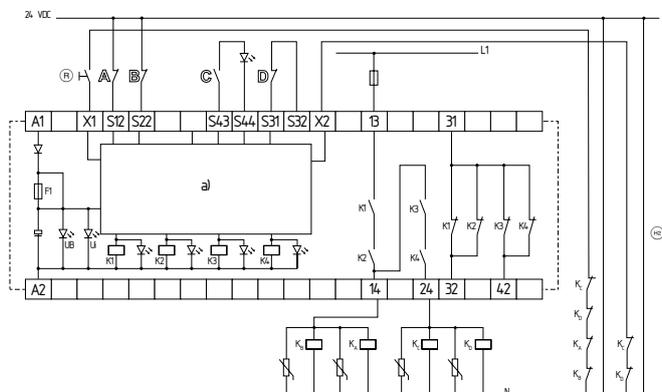

Fig. 3: SRB202CA, 202CA/T, SRB202CA/Q, SRB202CA/QT
Dual-channel control, shown for an emergency stop circuit; with two contacts A and B and a guard door monitor with two contacts C and D, where at least one is a positive break contact; with external reset button (R) (related on the switch-off level 1) (see Fig. 3)
- (HB) = Feedback circuit